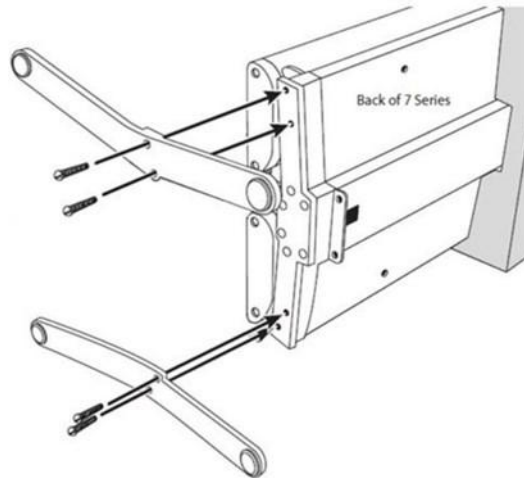

Figure 11 Feet Installation
- The screws to attach the feet are pre-inserted in the bottom of the unit at the factory. Remove them, then position the first foot so that its “longer” side is toward the front. Mount it using the screws that you removed from the bottom of the device, see Figure 11 Feet Installation. Repeat the process for the second foot.